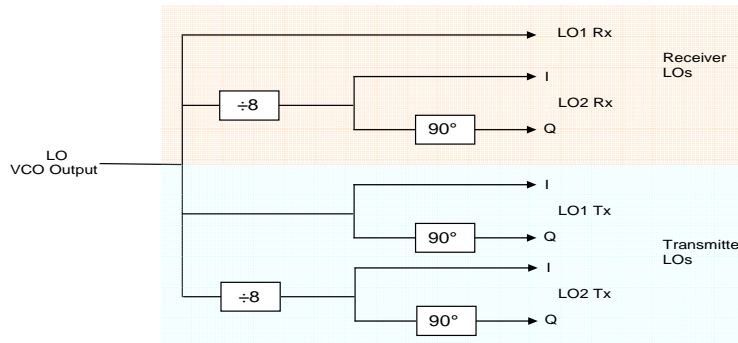

Figure 5: LO Generator
The output signal of the VCO is used as the input to the local oscillator (LO) generator stage, illustrated in Figure 5. The VCO frequency is subdivided and used in a series of up (down) conversions for transmission (reception).